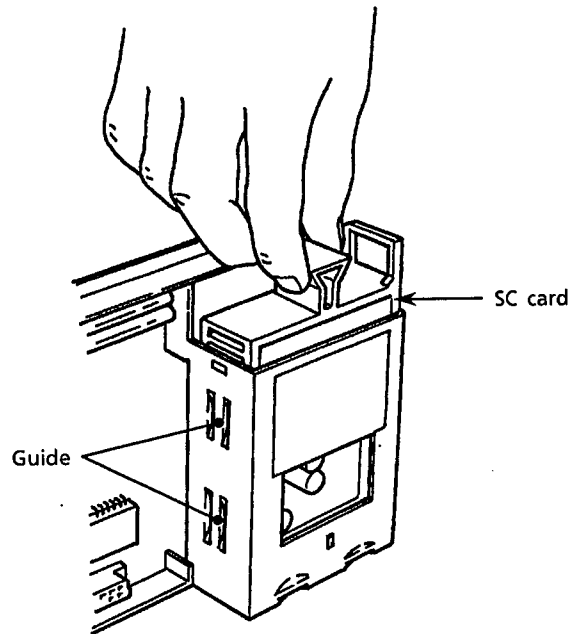

Figure 11.6 Replacing the SC Card
(1) How to Detach
- ① Swing up the front panel, and then remove the internal unit.
- ② Hold the pull-up knob at the top center of the SC card, and pull up (in case of the thermocouple input SC card, with taking care of the cable for the RJC) (see Figure 11.6).